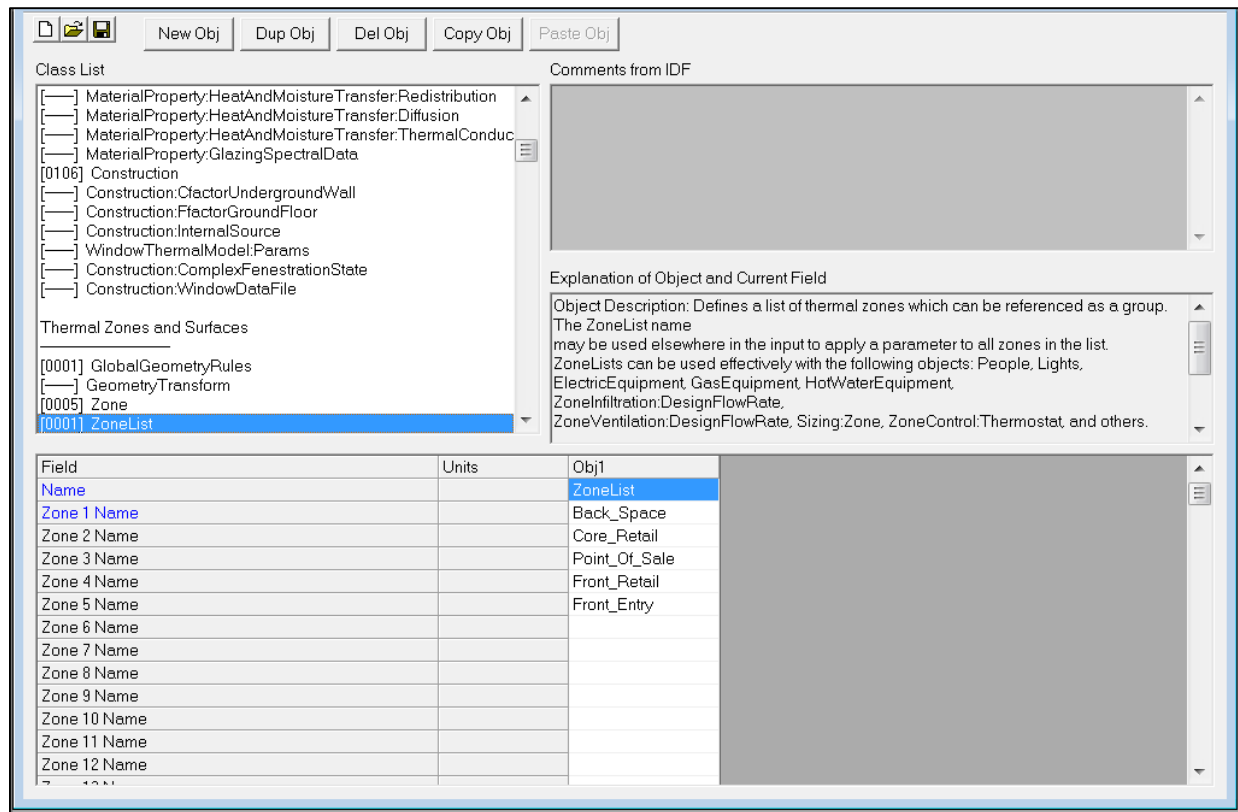

Figure 29. Creating new ZoneList object in EnergyPlus project file
- d. The feature creates one ZoneInfiltration object that applies to the Zone or ZoneList Name “ZoneList”. Thus, you need to create a ZoneList object in the EnergyPlus project file that contains the names of all the zones in the EnergyPlus project. Scroll or use the Find function (Ctrl+F) to go to the ZoneList object (**Figure 29**). Press the “New Obj” button. In the new ZoneList object, input the following:
- ii. Zone 1 Name: enter the name of the first zone. You can find a list of all the zones in the EnergyPlus project file in the Zone object, which is right above the ZoneList object. Repeat this for every zone. In the example in **Figure 29**, there are a total of 5 zones.